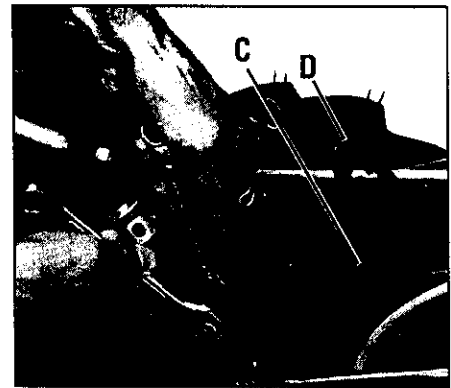

Figure 2-2: Attach handlebars.
2. Position the handlebar cross-brace (C, Figure 2-2) in front of the curved height adjustment bracket (D) and place the handlebar ends to the outside of the two mounting tabs on top of the transmission.
3. Attach the handlebars to the mounting tabs with two 3/8-16 x 1" screws (heads of screws go to inside of tabs), 3/8" flat washers and 3/8"-16 Nylok lock nuts (see Figure 2-2). Do not fully tighten the screws at this time.
5. Screw the height adjustment handle (F) into the threaded hole in the handlebar cross-brace, making sure that the raised keys on the washer fit into the selected slot on the curved bracket. Tighten the height adjustment handle securely. Next, securely tighten the two screws that attach the handlebar ends to the mounting tabs (Figure 2-2).